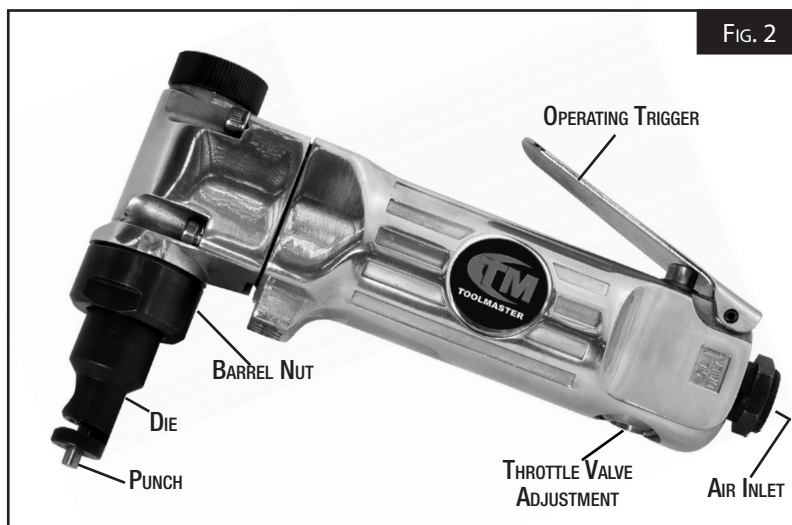

FIG. 2
2. If required, to improve access to the workpiece, the die can be rotated in 90° intervals through 360°. To do this release the barrel nut then rotate the die to the required angle and tighten the barrel nut. (See Fig.2)
7. Grip the Air Nibbler firmly, and depress the operating Lever to begin cutting.(See Fig. 2)